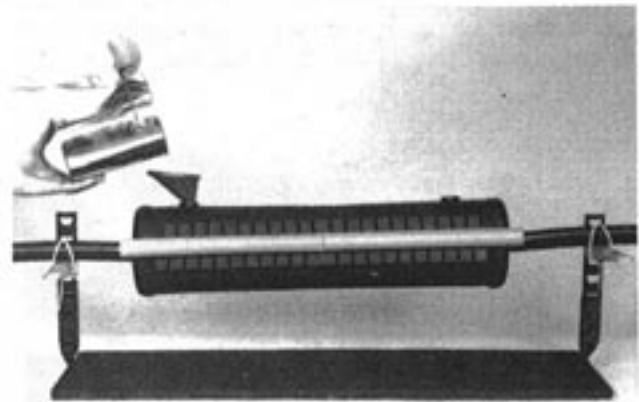

Figure 39 — Pouring The Resin
12.06 Pour the encapsulant slowly into the funnel until the encapsulant can be seen in the higher port hole. Figure 39.